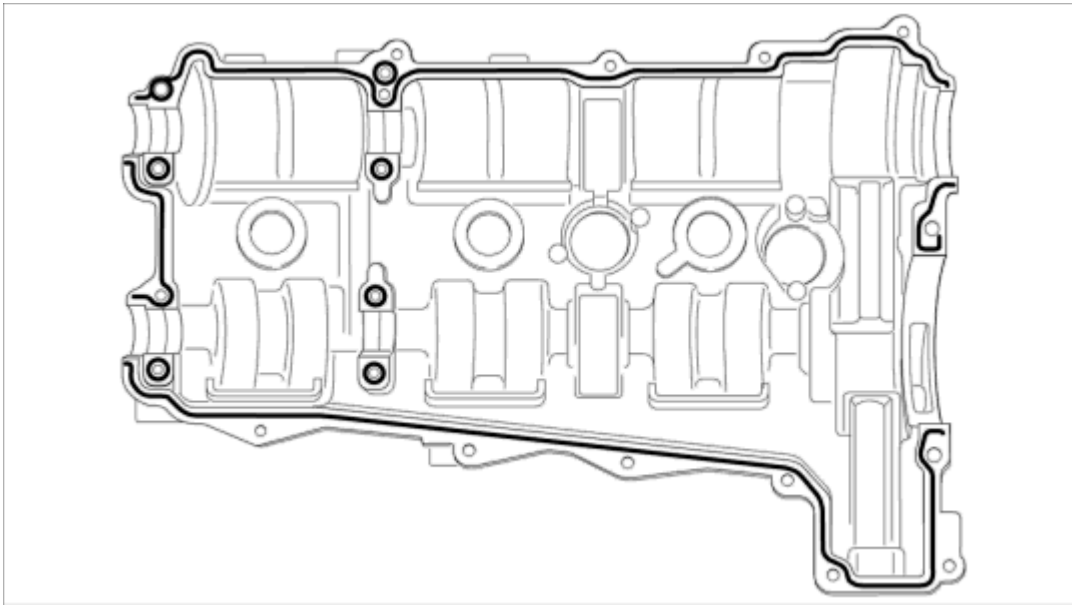

Fig. 205: Sealant application on cylinder head cover
2. Prepare cylinder head cover for assembly. Apply a thin bead of sealant on the cylinder head cover (not more than 1.5 mm high). --> *Sealant application on cylinder head cover* . See **Fig. 205**.